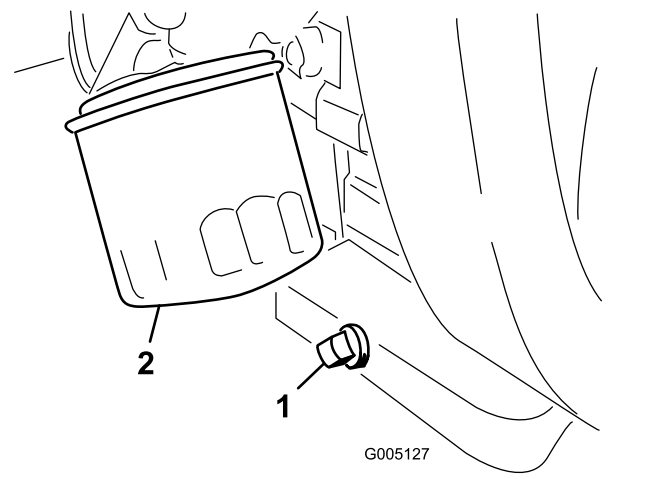

Figure 30
1. Remove the drain plug (Figure 30) and let the oil flow into a drain pan.
2. Clean the threads of the drain plug, apply PTFE sealant, and install the drain plug (Figure 30).
- Remove the oil filter (Figure 30).